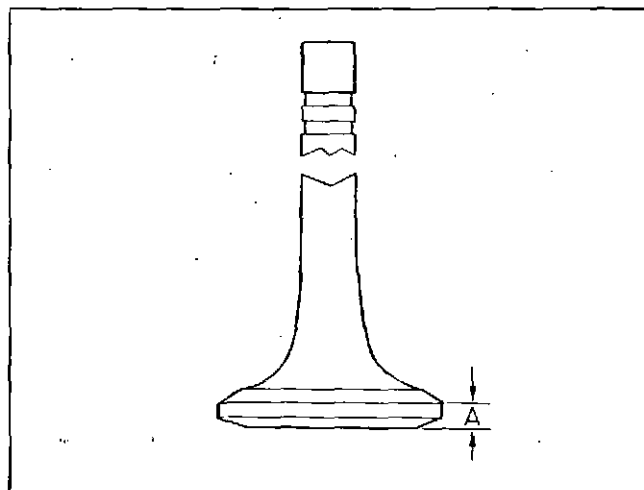

Fig. 2-12 (N10231). The Thickness Of The Valve Head Rim.
2. Check the valve head for damage. Use the Part No. 3375933 Valve Head Checking Tool to measure the thickness of the valve head rim (A), Fig. 2-12. The rim must measure a minimum of 0.105 inch [2.67 mm].
3. Check the thickness of the valve head rim, Fig. 2-12, to be sure that the rim thickness is not less than 0.124 inch [3.15 mm]. Do not repair any valve with cracks or other damage or any valve whose rim thickness is less than 0.124 inch [3.15 mm].